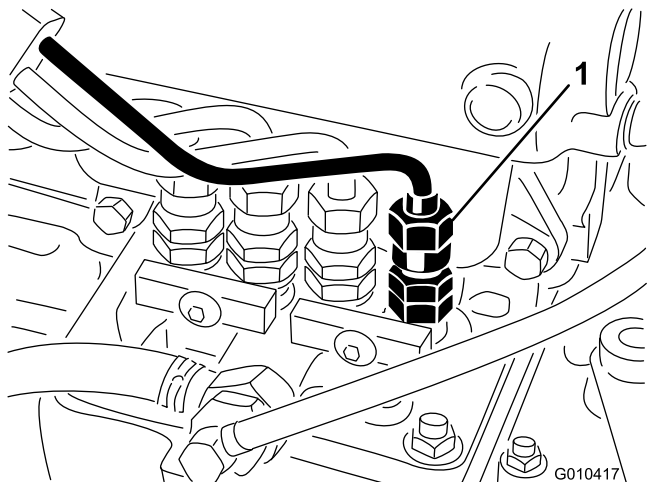

Figure 35
1. Loosen the pipe connection to the #1 injector nozzle and holder assembly at the injection pump (Figure 35).